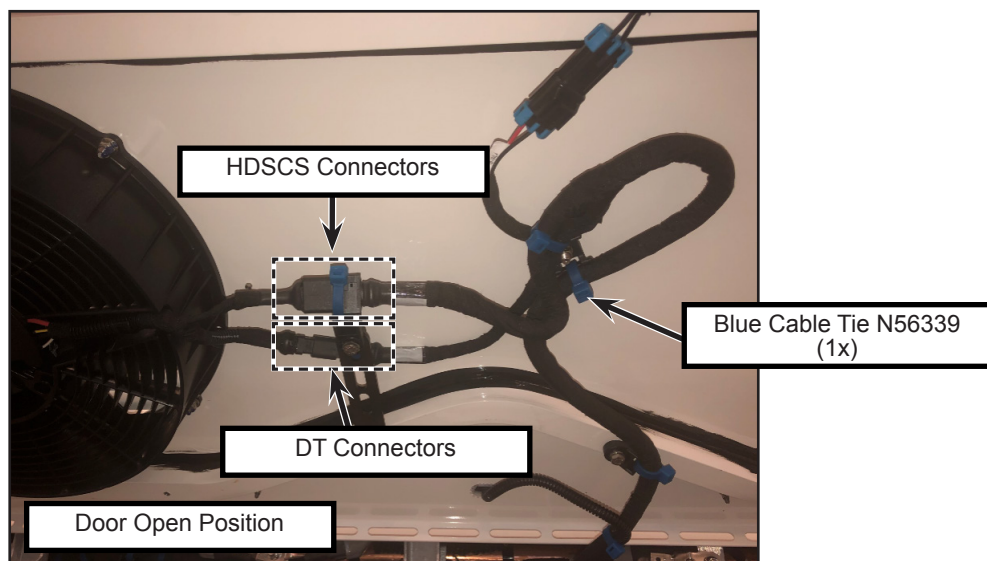

Figure 21 - Final Installation Showing the Black HDSCS and DT Connectors Replacing the Original Grey DTP and DT Connectors
1.40. Secure the wiring on the door at harness side with a blue cable tie PN N56339 (1x) (see figure 21).